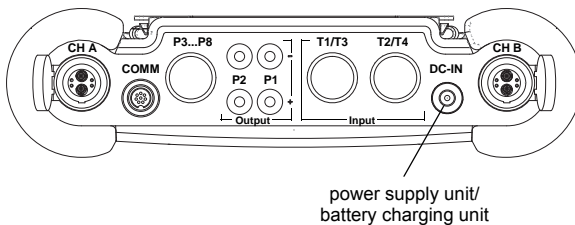

Fig. 6.7: Connections of the transmitter FLUXUS G601
Connect the power supply unit to the transmitter (see Fig. 6.7). Switch on the transmitter. The charging starts automatically. The LED "BATTERY" flashes green while charging. The max. charging time is approx. 5 h.
- Connect the power supply unit to the socket on the upper side of the transmitter (see Fig. 6.7).